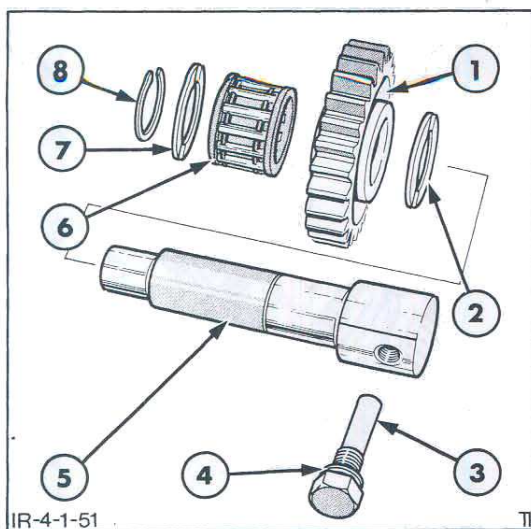

Figure 91
1. Thoroughly clean the reverse idler gear components, Figure 91 with a suitable solvent and allow to dry.